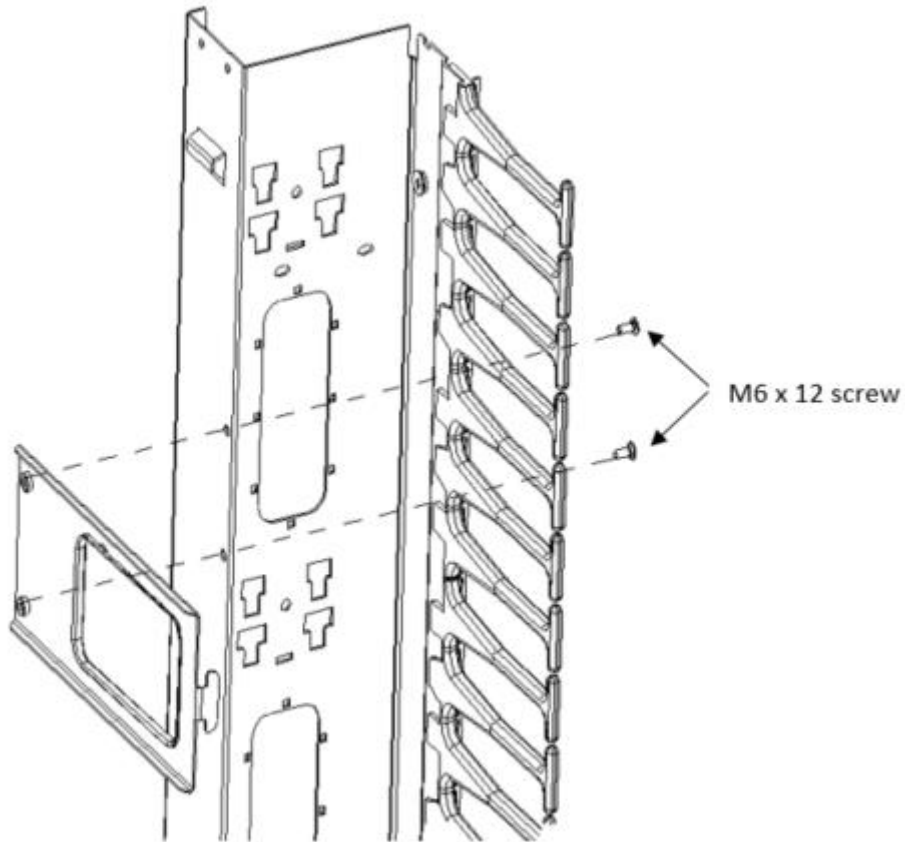

Figure 2
3. Mount the four door support brackets to the outside of the equipment rail using two M6 x 12mm screws for each bracket, see figure 2.